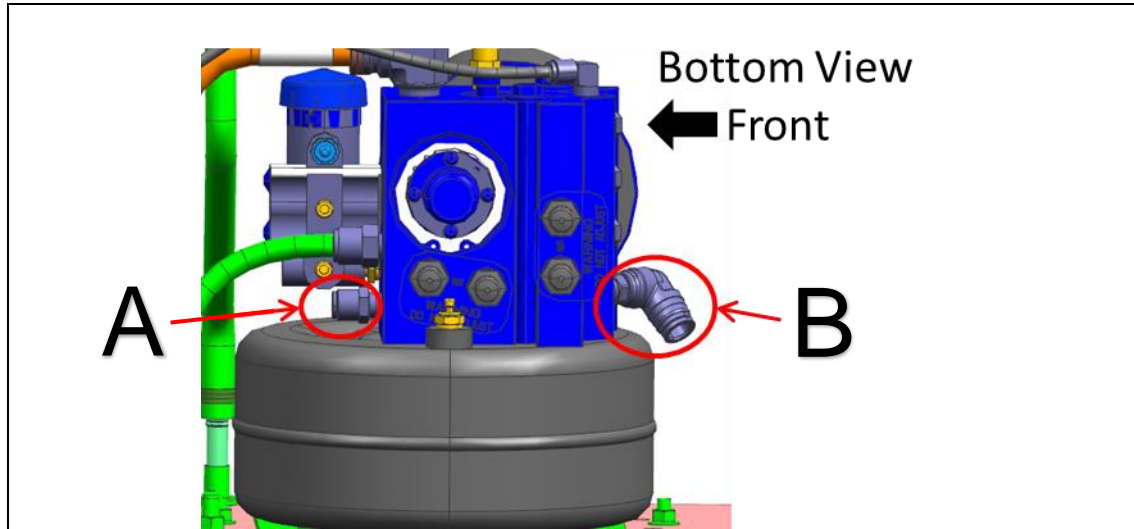

Figure 7
- Apply Teflon tape onto threads of the new, straight 3/8 x 1/4 PTC connector. Install into the air dryer port 22 SEC and torque to 13.5±2.7 Nm (10±2 lb-ft). (See Figure 7, “A”.)
- Apply Teflon tape onto threads of the new, 90° swivel, ½ x ¼ PTC connector. Install into the air dryer port 23 AUX and torque to 13.5±2.7 Nm (10±2 lb-ft). (See Figure 7, “B”.)